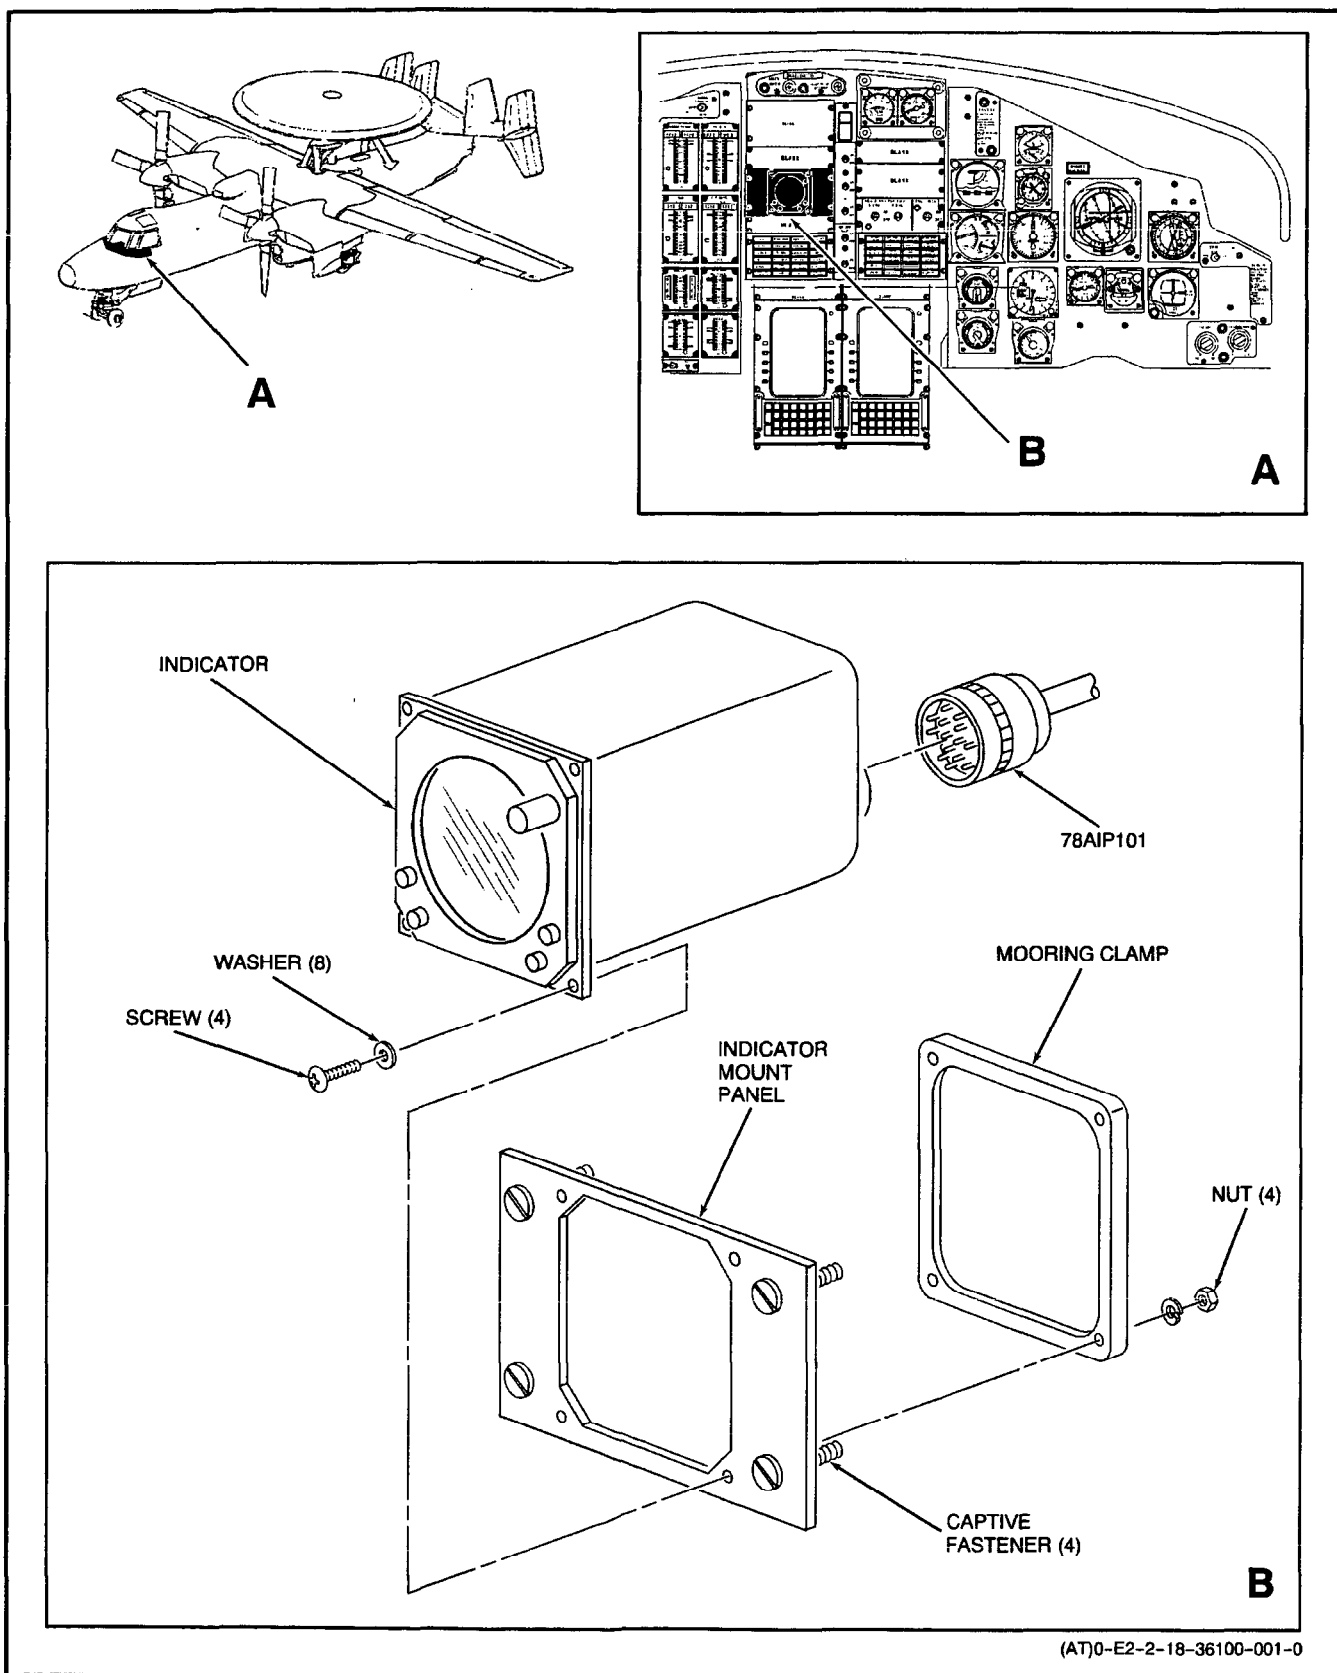

Figure 1. Removal and Installation of Azimuth-Range Indicator IP-1658/AMS-2
**3. REMOVAL. (Figure 1.)**
**4. INSTALLATION.** (Figure 1.)